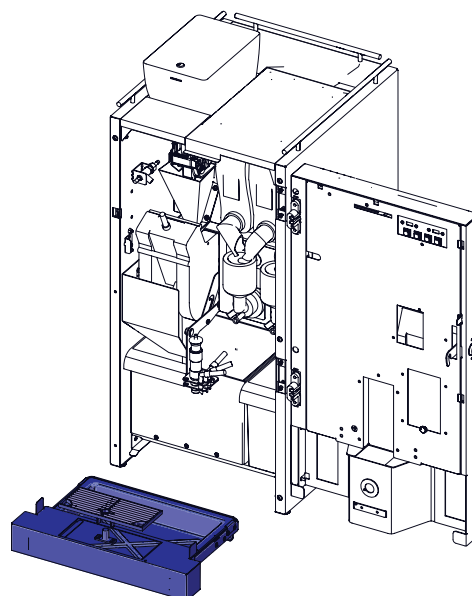

Fig.11.3
11.2.1.4 Drop tray and tray grill (see fig. 11.3)